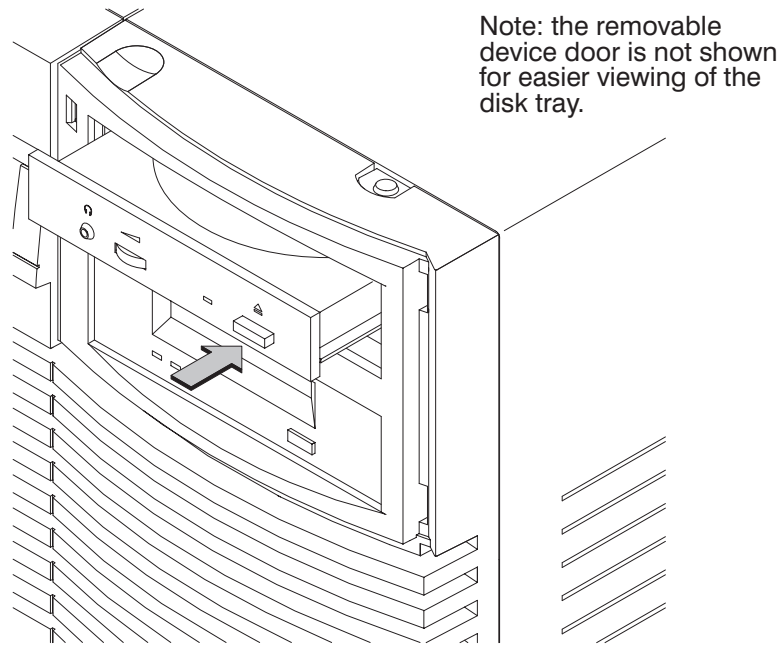

Figure 2–2. CD-ROM Disc Tray Partway Open
1. Press and release the eject button on the CD-ROM drive. The disc tray opens partway, as shown in Figure 2–2.